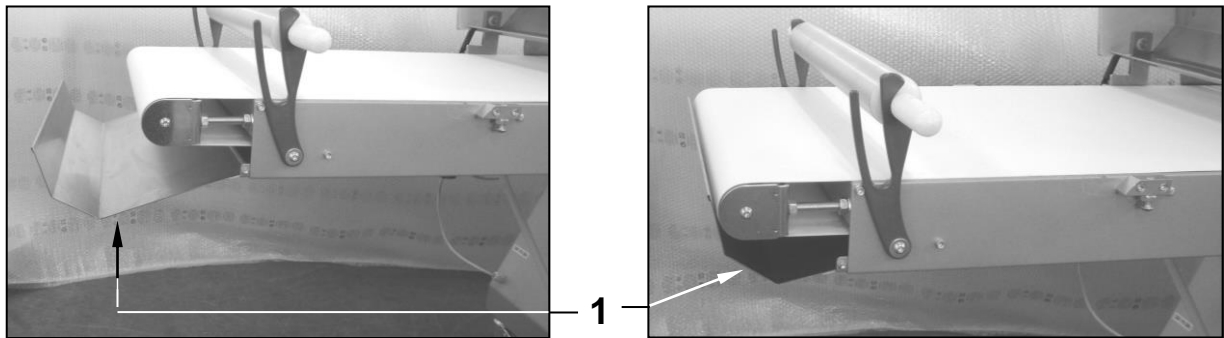

Fig. 4.8
Fig. 4.8 shows the dough catcher ref. 1 pulled out and pushed in.